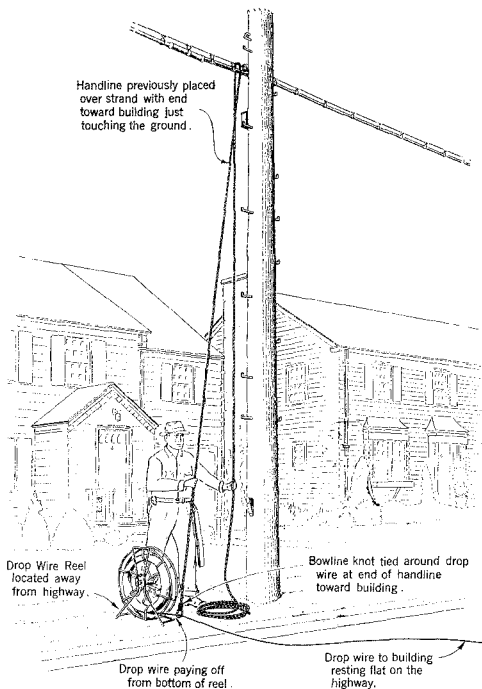

Fig. 2 — Bowline Knot Placed around Drop Wire
(2) Place a handline over the strand, guard arm, drive hook, or crossarm so that both ends reach the ground, with no excess length in that portion of the handline toward the building. If practicable, the handline may be formed into a coil at one end and thrown over the strand. After the handline has been placed, tie it to the base of the pole or the lower rungs of the ladder to avoid interference with pedestrians or vehicles. If it is necessary to climb the pole or ladder to place the handline, install any drop wire support that is needed, otherwise, place this support when the pole is climbed to attach the drop wire as covered in Step 9.
(3) Roll or carry the drop wire reel from the building to the building side of the street or highway, paying out the wire along the ground with sufficient slack to ensure that the wire rests flat on the ground.
(4) When no traffic is approaching, roll or carry the drop wire reel across the street or highway to the previously placed handline, paying out the wire so that it rests flat on the ground. If a metal or hard rubber-tired vehicle passes over the wire, carry the drop wire reel back to the building side of the highway and pull the wire from the highway. Inspect the wire for possible injury and replace any portions that are found to be damaged.
(5) Release the handline from the base of the pole or ladder and tie a bowline knot in the end of the handline toward the building and around the drop wire at the reel as shown in Fig. 2, being careful not to raise the wire above the highway. Wind any excess length of drop wire on the reel.